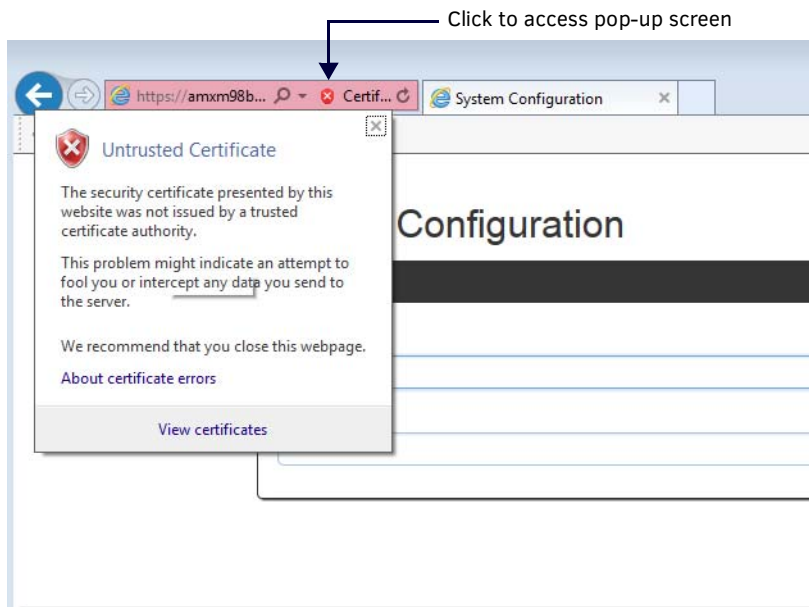

FIG. 62 Untrusted Certificate pop-up message
- When the website appears, click the red X in the address bar (FIG. 62). An Untrusted Certificate pop-up message will appear.